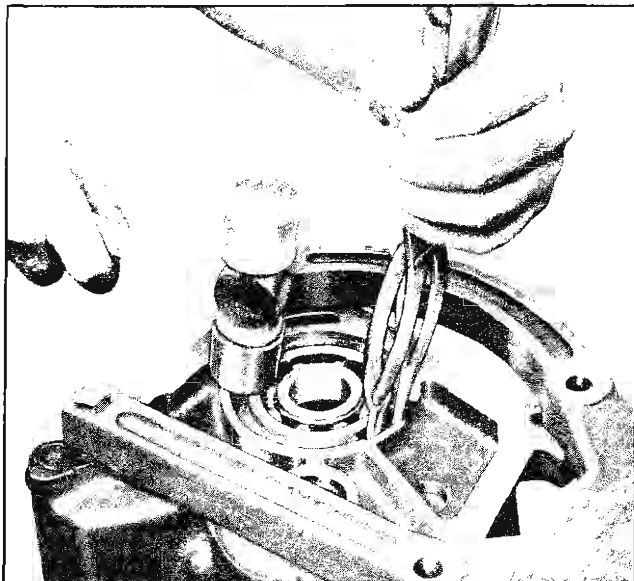

Fig. 7-21 Removing Mainshaft Bearing
8. To remove the mainshaft bearing from the case, fully expand retaining ring and start bearing out by tapping on outer race (Fig. 7-21). Then drive bearing out of case.